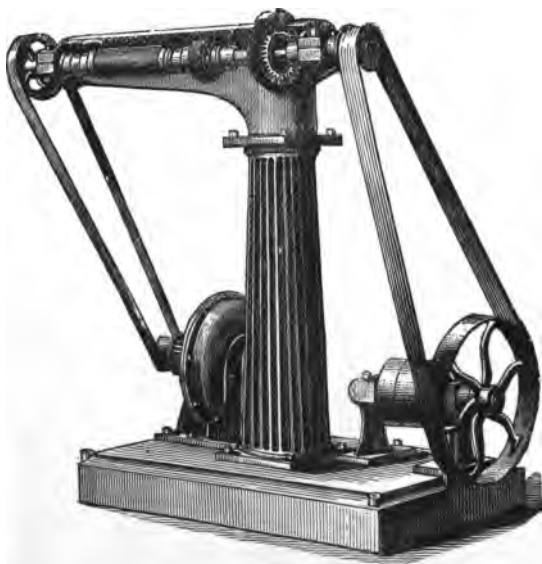

Fig. 94.—SAND-PAPERING MACHINE.
**Sand-papering Machine.**—This machine (Fig. 94) should supersede the employment of buff knife, &c., and